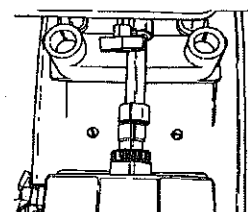
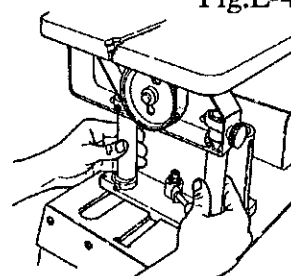

Fig.E-4
Fig.E-5
9. To align the Strip Sander horizontally, look to see how much it is out of horizontal alignment as shown in Fig.E-4. Then twist the tubes to the left or right until the coupler is aligned with the drive shaft hub. See Fig.E-5.